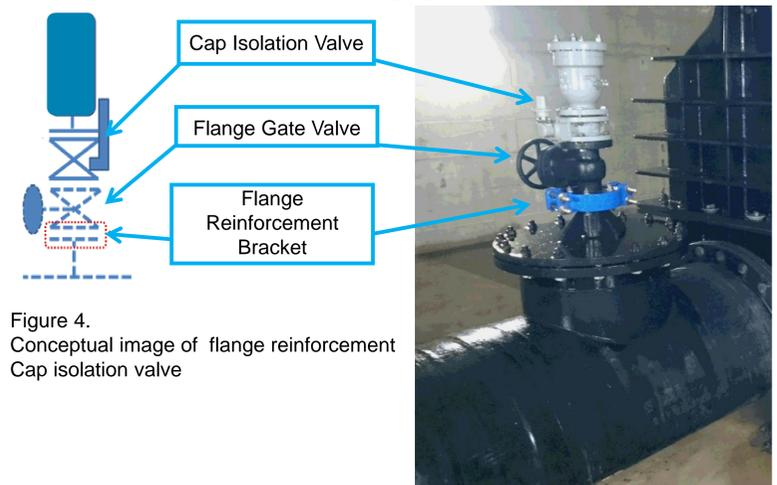

Figure 4.
- To make closing valves easier, a cap isolating valve was installed the under the air-valve, in addition to the conventional flange gate valve. (Figure 4, Picture 7)